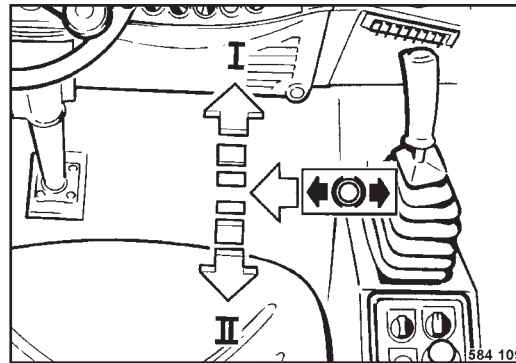

Fig. 46
- Push the travel lever (Fig. 46) to the left out of braking position and move it slowly to the desired travel direction.